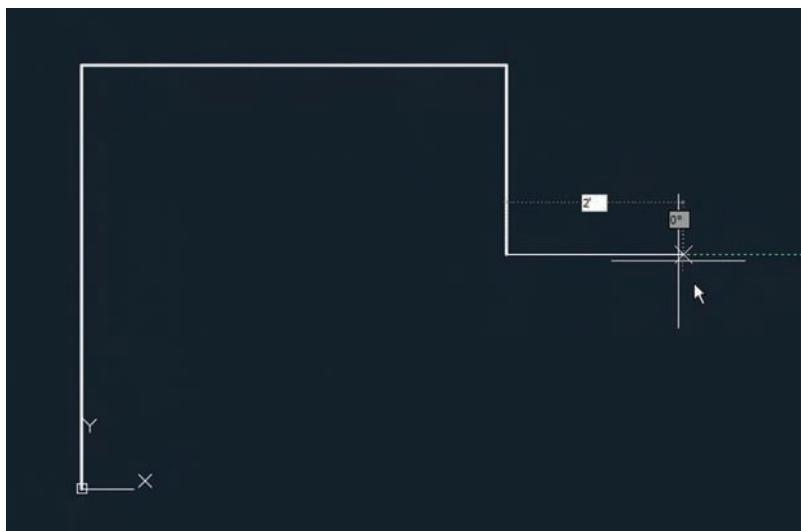

FIGURE 3.5 Drawing a line using Ortho mode and direct distance entry
6. Move the cursor around and observe that green dashed lines appear in eight locations around a circle (in 45 increments). Move the cursor to the right relative to the last point, type **2'** (or **600** for metric), and press Enter (see Figure 3.5). Press Esc to terminate the LINE command without deleting the last segment drawn.